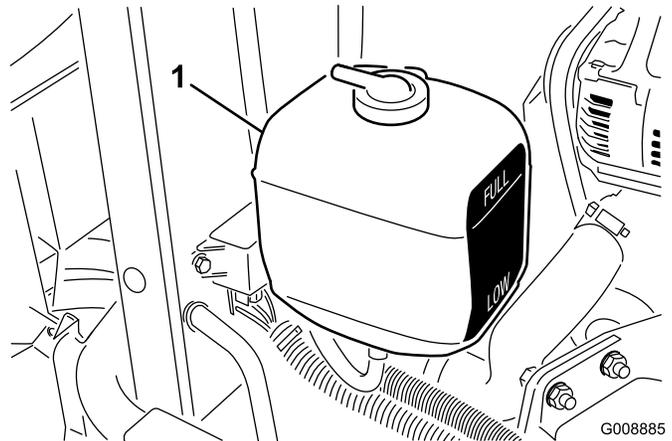

Figure 26
1. Check the coolant level in the expansion tank (Figure 26). With a cold engine, the coolant level should be approximately midway between the marks on the side of the tank.